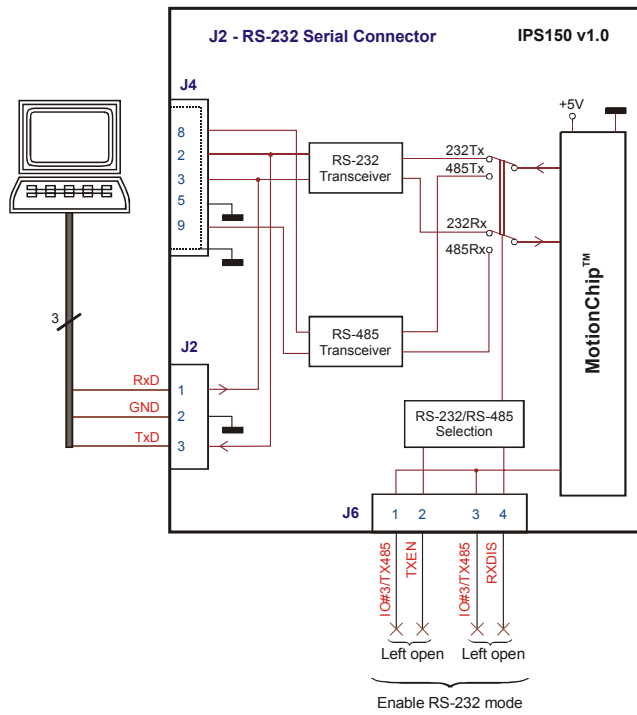

Figure 4. RS-232 connection diagram
2. Connect the IPS150 drive to the PC computer as you can see in the Figure 4